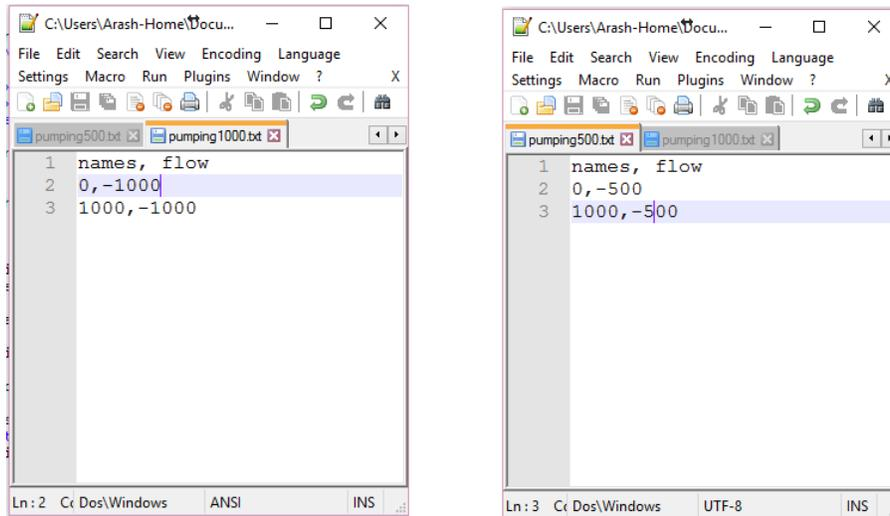

Figure 4.3: Pumping time-series files
- Select the Darcy block labeled "Darcy (113)" and type "-1" in the property **Head-storage relationship**.
- Repeat the previous step for all block in the lowest row (Darcy (114)-Darcy (128)).
At the time we consider a constant pumping from storage block *Darcy (54)* at  $1000m^3/day$  and storage block *Darcy (57)* at  $500m^3/day$  over a 1000days period. The inflow time-series files should look like Figure 4.3. Create the files and save them respectively as "pumping1000.txt" and "pumping500.txt". Select the block labeled *Storage(54)* and from the properties window find the property called **Inflow time series** and choose *pumping1000.txt*. Repeat the previous task for *Darcy (57)* block and select *pumping500.txt*.
At the time we consider a constant pumping from storage block *Storage(54)* at  $1000m^3/day$  and storage block *Storage(57)* at  $500m^3/day$  over a 1000days period. The inflow time-series files should look like Figure 4.3. Create the files and save them respectively as "pumping1000.txt" and "pumping500.txt". Select the block labeled *Storage(54)* and from the properties window find the property called **Inflow time series** and choose *pumping1000.txt*. Repeat the previous task for *Storage(57)* block and select *pumping500.txt*.